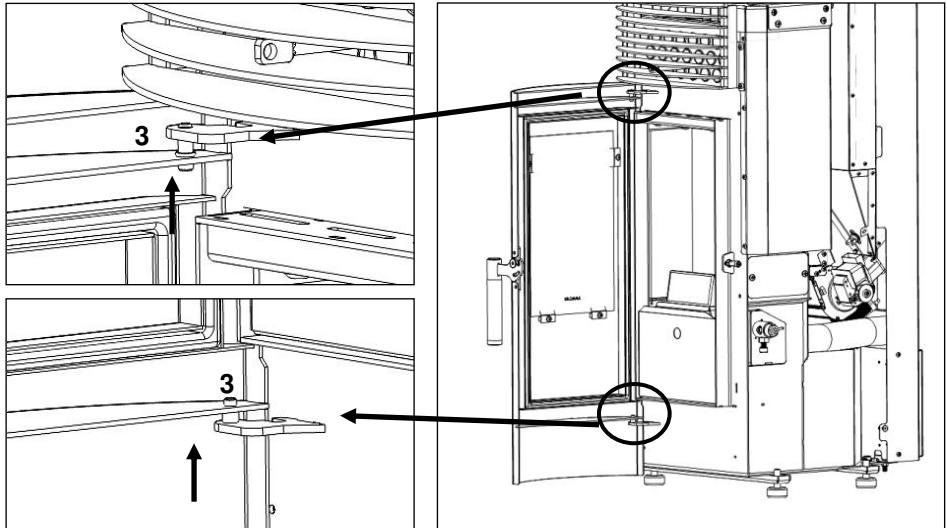

Figure 75 – Remove the door
- d) Then to engage the side covers, you must first fold the tab as shown in Figure 75 to ensure that it is at an angle of less than 90°.